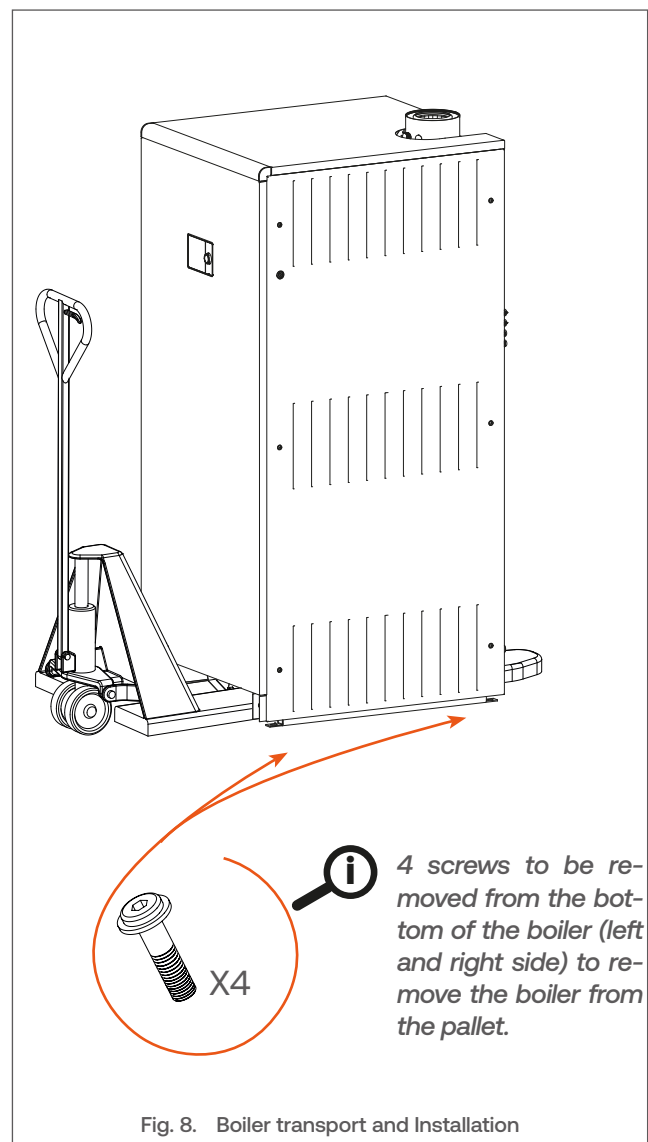

Fig. 8. Boiler transport and Installation
1. Slide the arms of the hand truck or fork lift underneath the boiler, from the front of the appliance (See **Fig. 8**).